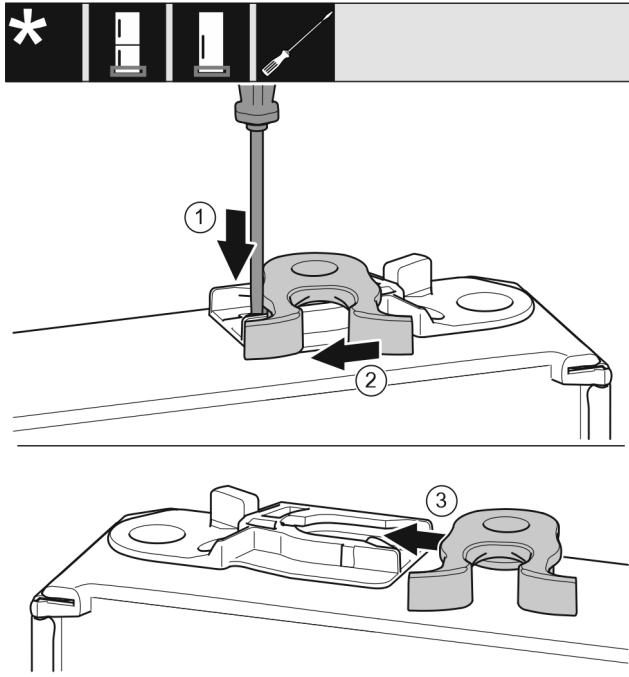

Fig. 22
- ▶ Use a slotted screwdriver to push the tab Fig. 22 (1) downwards.
- ▶ Pull the closing hook Fig. 22 (2) out of the guide.
- ▶ Insert the closing hook Fig. 22 (3) into the guide on the other side.